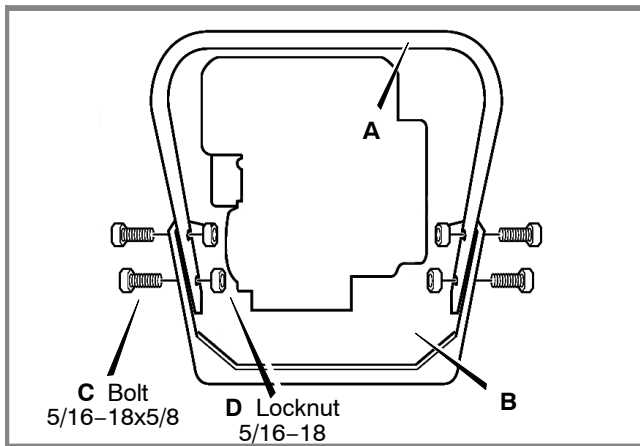

Figure 3: Lower Handle
- 1 Mount the lower handle (A) to the inside of the edger frame (B). Fasten the lower handle with the fasteners (C, D) shown in Figure 3. As you tighten the fasteners, pull back on the lower handle.